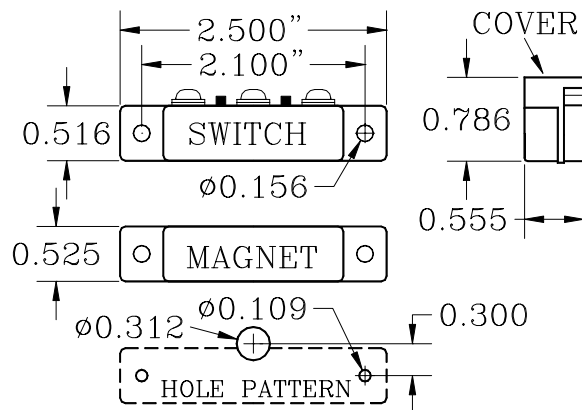
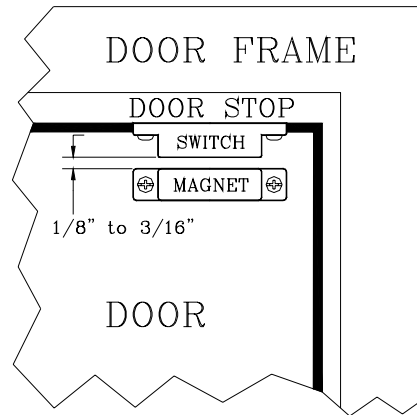

Figure 9.2 Magnetic Switch Dimensions
Figure 9.3 Mounting the Magnetic Switch
Magnetic Switches are usually located at the top of the monitored door on the doorstop. The part that contains the Switch is mounted on the header or doorframe, while the part that contains the activating Magnet is mounted on the door itself (see Figure 9.3). A recessed model is also available.
To mount the Magnetic Switch, refer to Figure 9.2, Figure 9.3 and use the following instructions:
1. After choosing your location, following the hole pattern shown in Figure 9.2, drill two 7/64" (0.109) mounting holes in the doorframe to accommodate the Switch. This size hole also coincides with the self-tapping screws provided with the Switch. Be careful not to drill these holes oversize.
8. Using the spacer provided in the kit, position the Door Magnet as shown in Figure 9.3 and mark where the mounting holes (7/64") will be drilled.